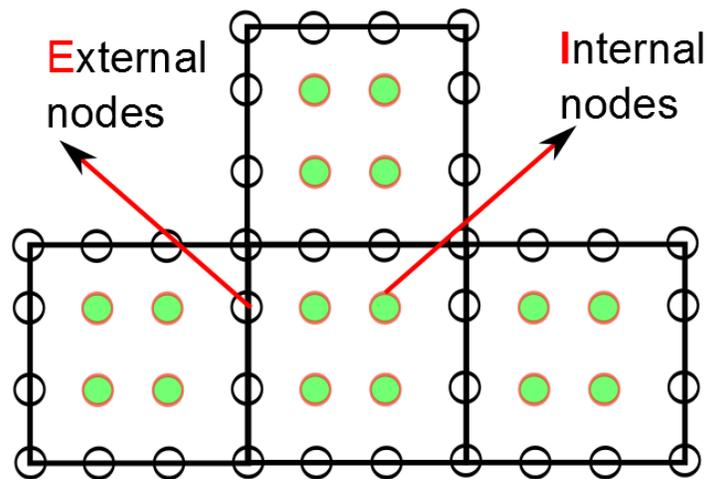

Figure 3: Internal nodes that can be condensed at the element level before global assembly
approach of only assembling only the free dofs. The same decomposition of the matrix can be used in “condensing” the internal dofs of higher order elements (those that have the so-called “bubble shape functions”) at the element level and only assembling the dofs that are shared between the element level at the global stage. This can substantially reduce the total number of dof and result in much smaller global stiffness matrix to solve. An example can be seen in fig. 3 where the average dof per element (assuming there is one dof per node) reduces by about a factor 2 (below)! The stiffness matrix at the element level can be written as,
- **15 Points** Show the average dofs per element for the 3rd order rectangle in fig. 3 before condensation is 9 and after condensation the average reduced to 5. For this type of analysis we ignore the effect of dofs on the boundaries of the domain (*i.e.*, domain is infinite). This approximation is correct when number of elements in each direction is (very) high.